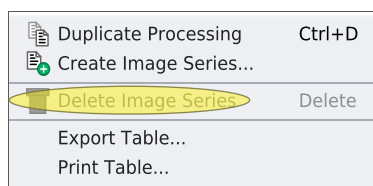

Figure 1.59: Context Menu Processing Platform
2. Open the context menu (see [Figure 1.59 \[p 75\]](#)) and invoke **Delete Image Series** or use the key on the keyboard.